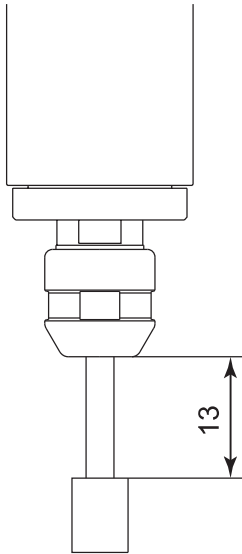

Fig. 40
- ① The proper surface speed for general grindstones is 10 -30m / s.
- ② Do not exceed 13mm of overhang for mounted grindstones as shown in Fig. 40. If the overhang must exceed 13mm, reduce the motor speed in accordance with table 6.
- ③ Dress the grindstone prior to use.
- ④ Do not use cutting tools with bent or broken shanks, cracks or excessive run-out.
- ⑤ For grinding, the maximum depth of cut should not exceed 0.01mm radially or axially. Reciprocate the tool several times after each pass to eliminate tool pressure.
- ⑥ Always operate tools within the allowable recommended speed of the tools. Use of a tool outside of the allowable speed of the tools could cause damage to the spindle and injury to the operator.
- ⑦ Keep the tool shank and collet clean. If contaminants are left in the collet or collet nut, excessive run-out will cause damage to the tool and or spindle.
- ⑧ Do not strike or disassemble the motor spindle.
- ⑨ Please set the tools to minimize the overhang amount. 13mm is the maximum amount of overhang to maintain high accuracy and safety.